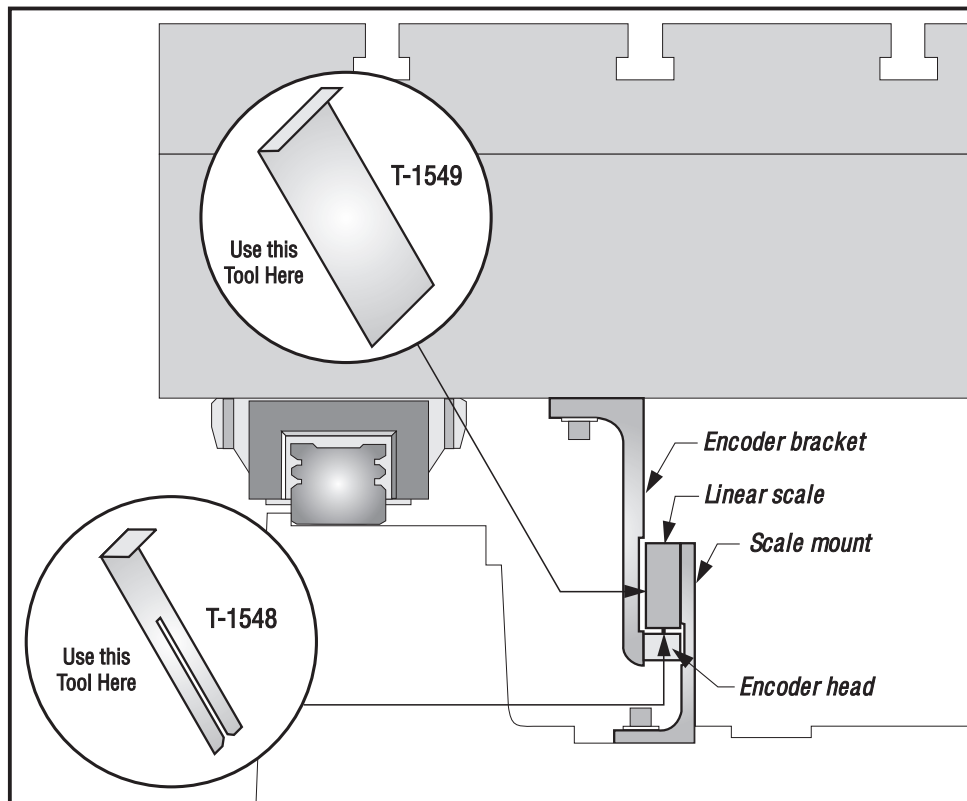

Figure 9-1. Linear scale alignment check tools.
4. If problems persist, check for correct gaps at each end of travel by inserting tools T-1548 and T-1549 into their respective gaps, as shown in Figure 9-1. These tools must fit without having to force them. If the tool can be moved more than 0.003", the fit is too loose.